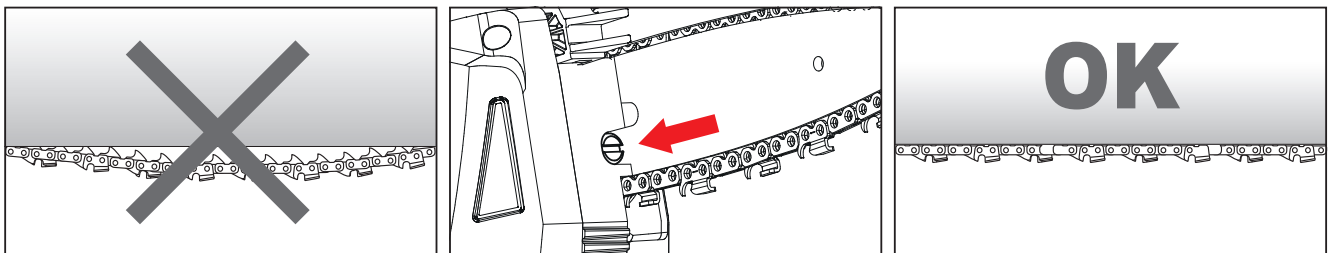

Fig. 10
- Referring to **fig. 10**, turn off the pruner and remove the battery.
- Tension the chain by turning the screw (1).